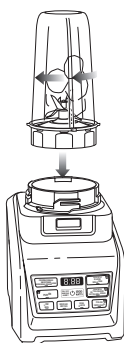

Fig. 3
- 5 Turn the Nutri Ninja cup upside down and place it onto the motor base, aligning the tabs on the cup with the motor base. Rotate the Nutri Ninja cup clockwise until it locks in place, you will hear a click when the lock is engaged. (Fig. 3)